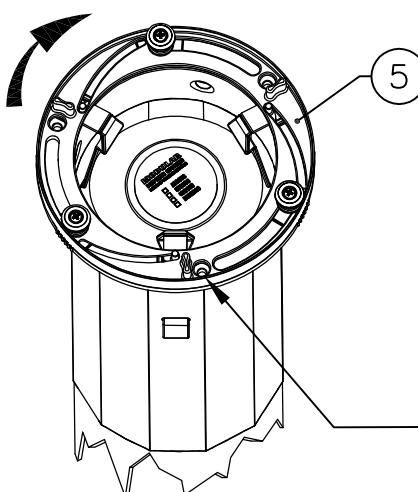

FIGURE 3A
- 2.) Dispenser is shipped with fingers set for smallest cup size. This setting permits access to mounting screw holes. If dispenser is not adjusted to this setting, rotate adjustable ring (5) clockwise to its smallest opening. The fingers (6) should be fully extended to maximum length (See Figure 3A).